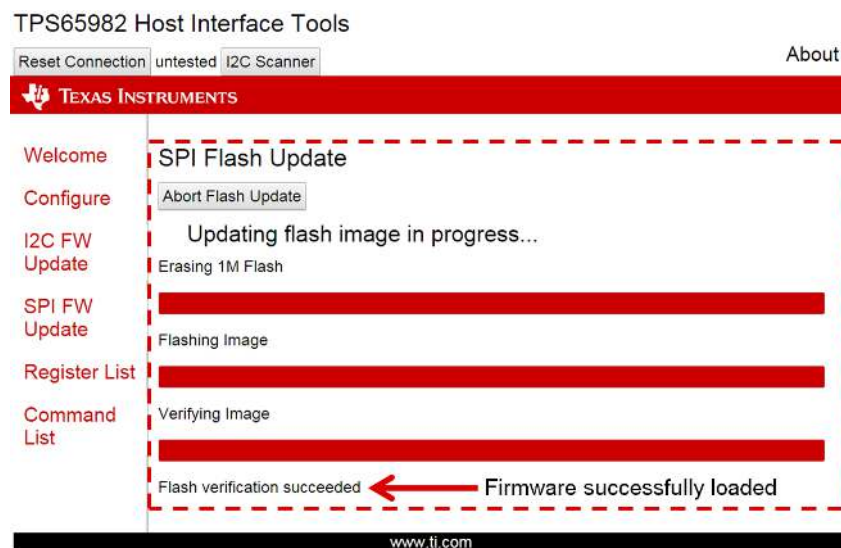

Figure 19. SPI Firmware Update—Firmware Update Complete
- Step 5. Verify that the firmware was successfully loaded. Figure 19 shows a successful firmware update.